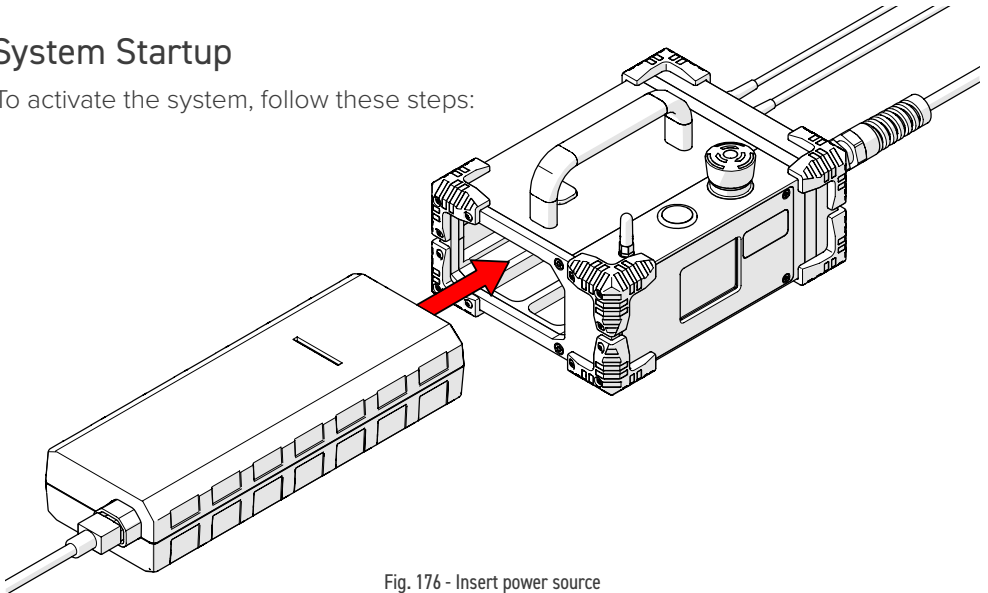

Fig. 176 - Insert power source
1. Insert power source into system controller dock (Fig. 176).